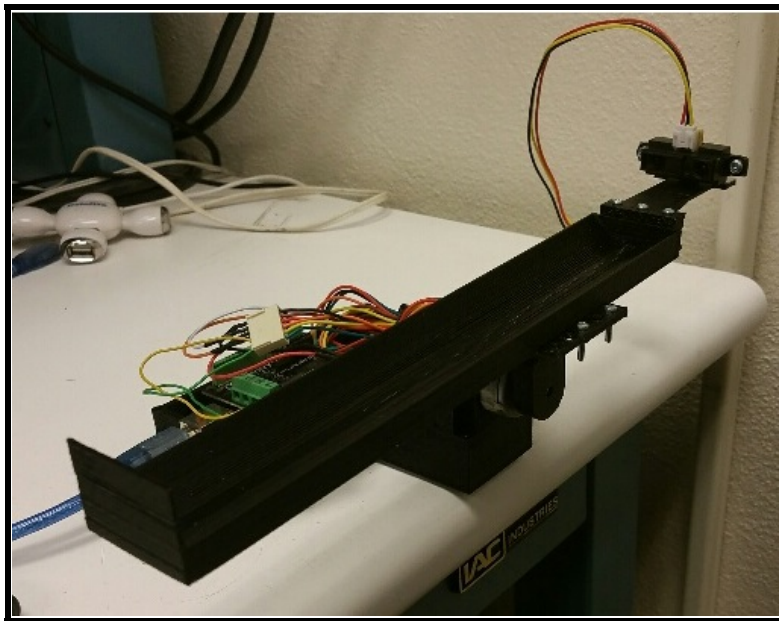

Figure 2.14: Complete Beam Construction
20. Stop and ensure your setup resembles Figure 2.14.